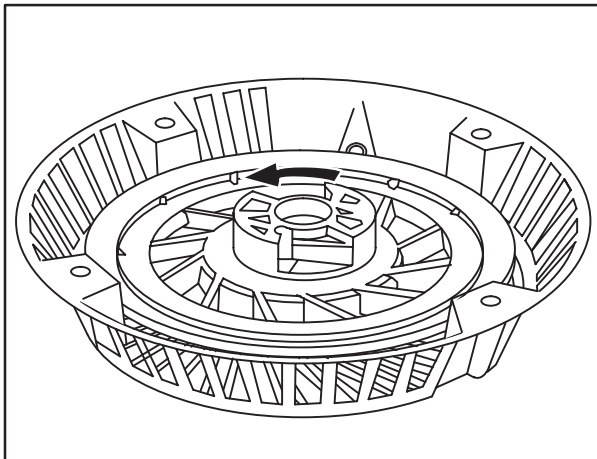

Fig. 71
4. Invert assembly, rotate pulley counterclockwise until inner spring tab engages spring anchor, **Fig. 71**.